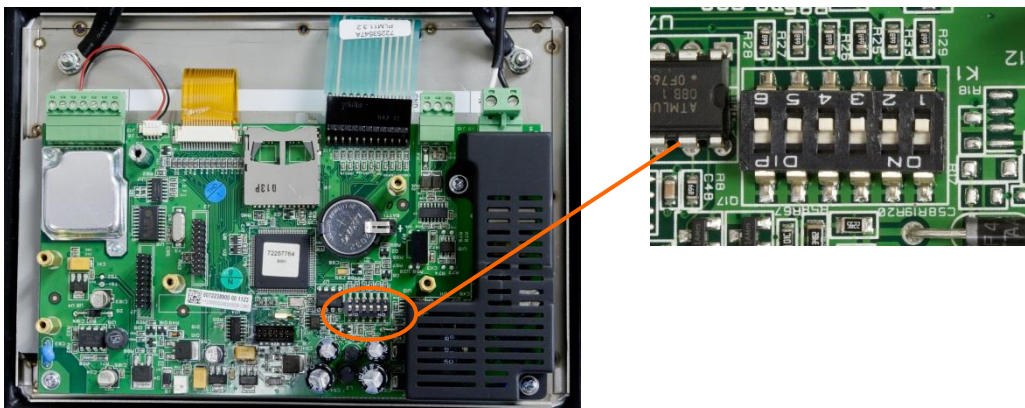

Figure 1-9: Location of Switch Block 1 on the Main PCB
A six position switch block (Figure 1-9) is located on the main PCB. These switches function as shown in Table 1-5.
1. Ensure that the appropriate approval region has been selected in setup under **Scale > Type > Approval**, and that the Metrology security switch SW1-1 is in its ON position (refer to Figure 1-9 and Table 1-5).